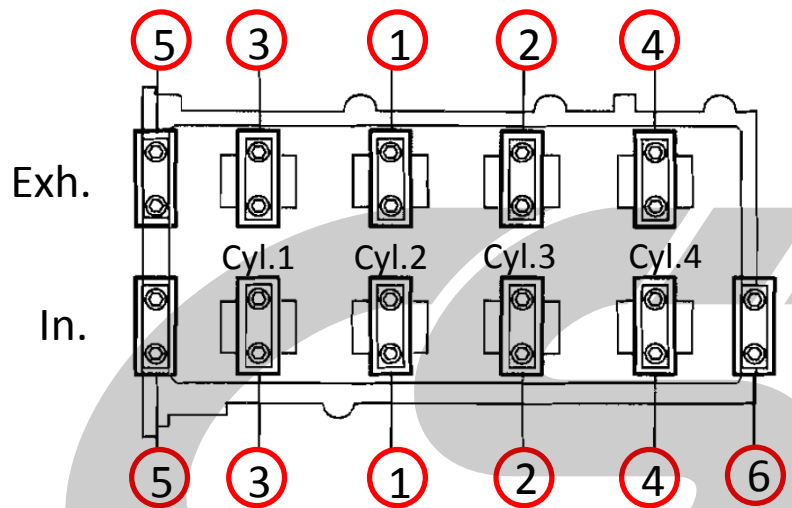

Figure 5g
- b) **Replace the bearing caps and tighten down the camshafts in the order shown in Figure 5g.**
f) Gently tighten down the intake camshaft cap bolts in 2 or 3 passes. Follow the tightening sequence shown in Figure 5g. Do not torque down the bolts at this time.
h) Torque the cap bolts fully in two passes in the tightening sequence (Figure 5g).